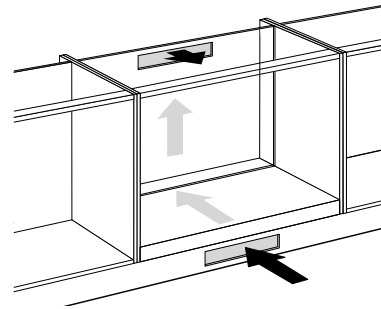

Fig. 2: Ventilation openings
- To have an air inlet in the plinth measuring 100 cm2 venting up behind the kitchen unit to the appliance (see fig. 2).